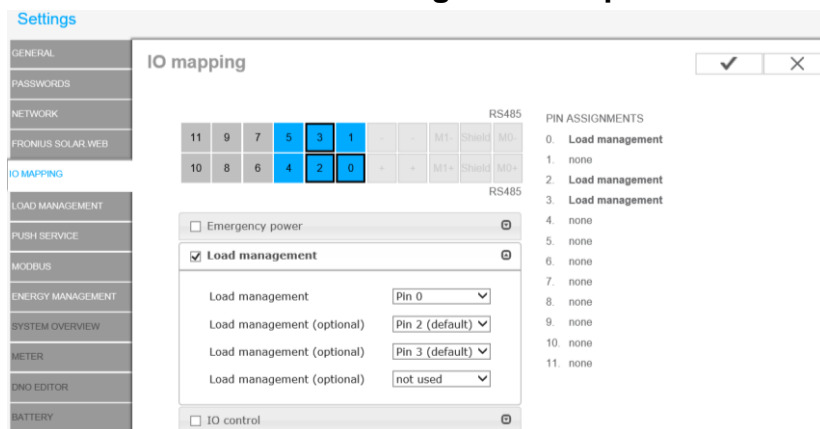

Figure 4a: Activation under I/O Mapping with SnapINverters
- / Activate the load management outputs under “I/O Mapping” or “Features and Pins”. See Figure 4a and b